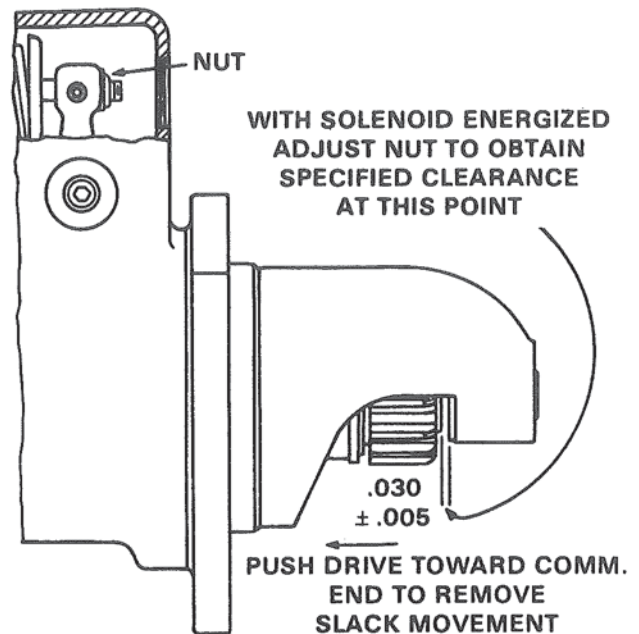

Figure 15. Pinion Adjustment.
2. Measure distance between outside edge of drive sleeve and thrust washer. Figure 15.